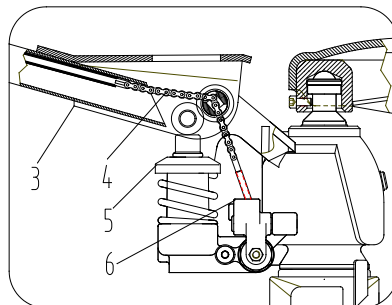
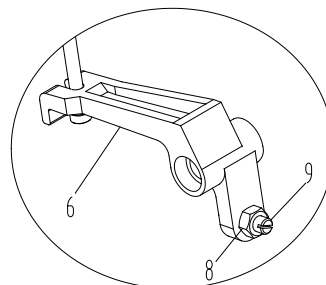

Fig.2
Fig.4
3.4 See fig 2. Put the chain 4 of hand grip get across the middle hole of pin roll 1.
3.5 Take screw nut which is at the end of chain 4 and hitch the groove of lever board 6 See fig 2 and fig 4.
- 4.2 The screw 9 in Fig 4 is used to adjust the truck situation. When the truck body drops immediately after it is lifted, you should turn the screw 9 a little counter-clockwise. And then try the truck again until truck body could lift normally. If the truck body couldn't drop after it is lifted, you should turn the screw 9 a little clockwise. And then try to operate truck again until the truck body could drop normally. The external hexagon nut 8 at screw 9 plays the locking function in the truck. So you should undo the external hexagon nut 10 before adjustment. And screw down the nut 8 after you finish the adjustment.